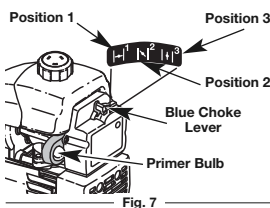

Fig. 7
3. Fully press and release the primer bulb 10 times, slowly. Some amount of fuel should be visible in the primer bulb and fuel lines (Fig. 7). If you can't see fuel in the bulb, press and release the bulb as many times as it takes before you can see fuel in it.
4. Place the blue choke lever in **Position 1** (Fig. 7).
9. Once the engine is warmed up, place the blue choke lever in **Position 3** (Fig. 7). The unit is ready for use.
IF... The engine hesitates, return choke lever to Position 2 (Fig. 7) and continue warm up.